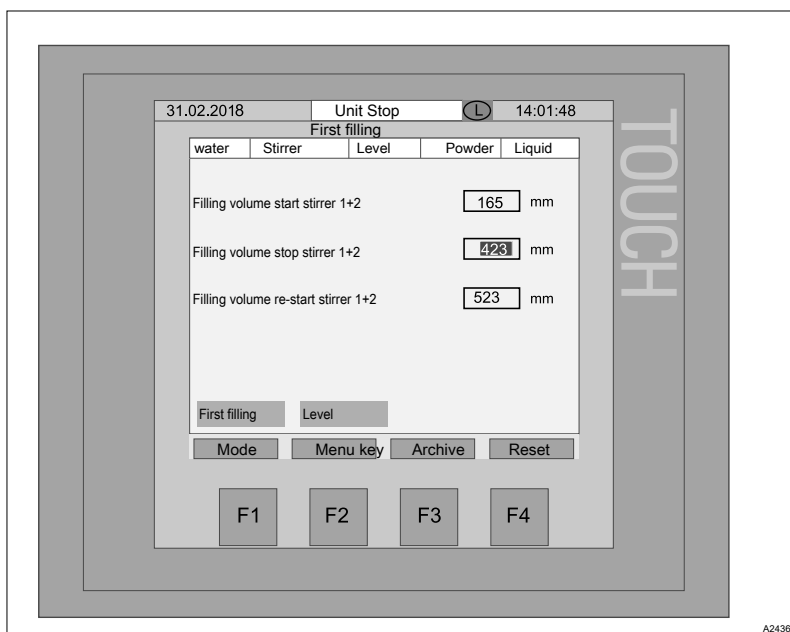

Fig. 28: First filling parameters
- Select the *[First filling]* view, see Fig. 28 and make the adjustments.